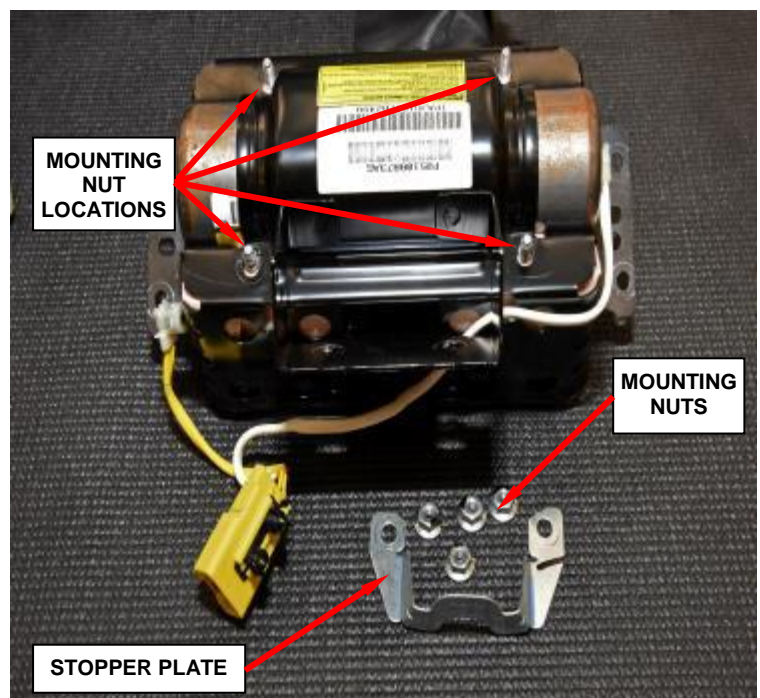

Figure 101 – Mounting Nuts and Stopper Plate
- e. Remove and **discard** the four inflator mounting nuts (Figure 101).